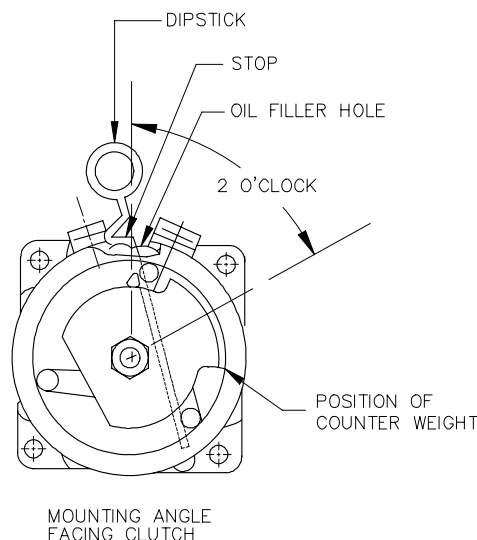

Figure 11 Oil Filler Plug Position
- (1) Ensure that the detector being used is sensitive to R134a refrigerant. Many leak detectors intended for R-12 cannot detect R134a leaks.
- (2) Use the leak detector in accordance with the manufacturer’s instructions.
- (3) The leak rate at any portion of the compressor should not exceed 1.0 oz/yr. Make sure that a suspected leak is an actual flow of refrigerant, not a small pocket of refrigerant trapped in a recess. Cleaning the suspect area with soap and water (never a solvent) or blowing off the area with compressed air can help confirm a suspected leak.
- (4) Leak check procedure should be in accordance with SAE J1628.
- c.** Remove the oil filler plug. Using a socket wrench on the armature-retaining nut, turn the shaft clockwise until the counterweight is positioned, as shown in Figure 11.
- d.** Insert the oil dipstick up to the stop with the angle pointing in the direction shown in Figure 11.